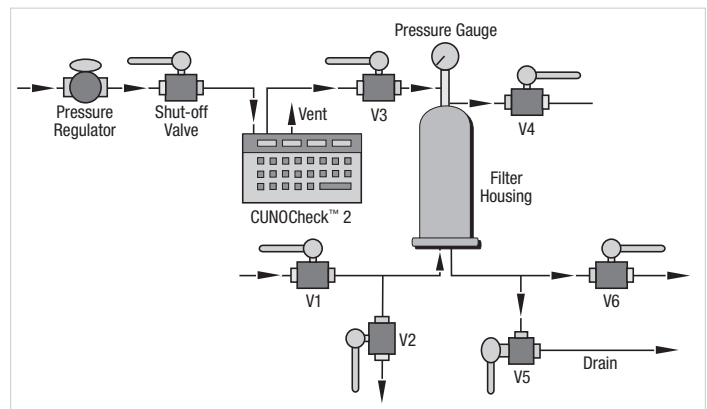

Figure 2. FFIT (automated method).
### 3. Procedure (Automated Testing — Figure 2)
A. Configure the system as shown in Figure 2.